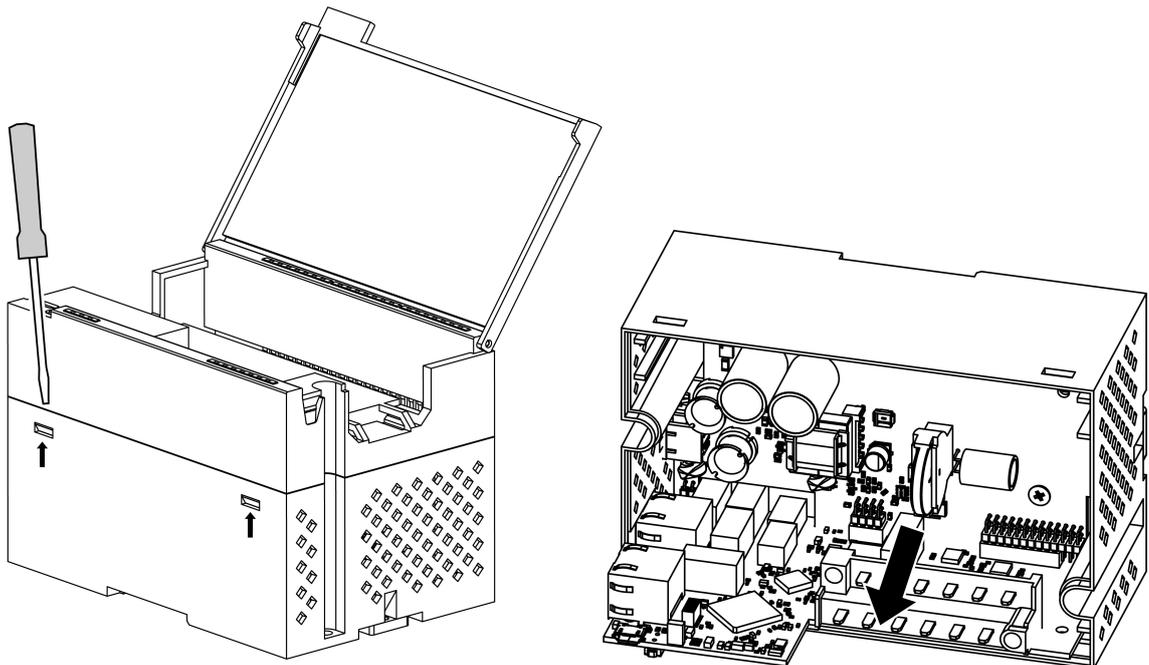

Fig. 7.3 Battery replacement
8. Replace the battery as shown in Figure 7.3.